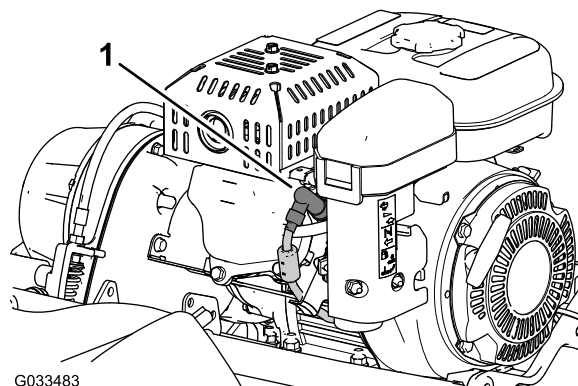

Figure 2
5. Disconnect the spark-plug wire from the terminal of the spark plug (Figure 2).